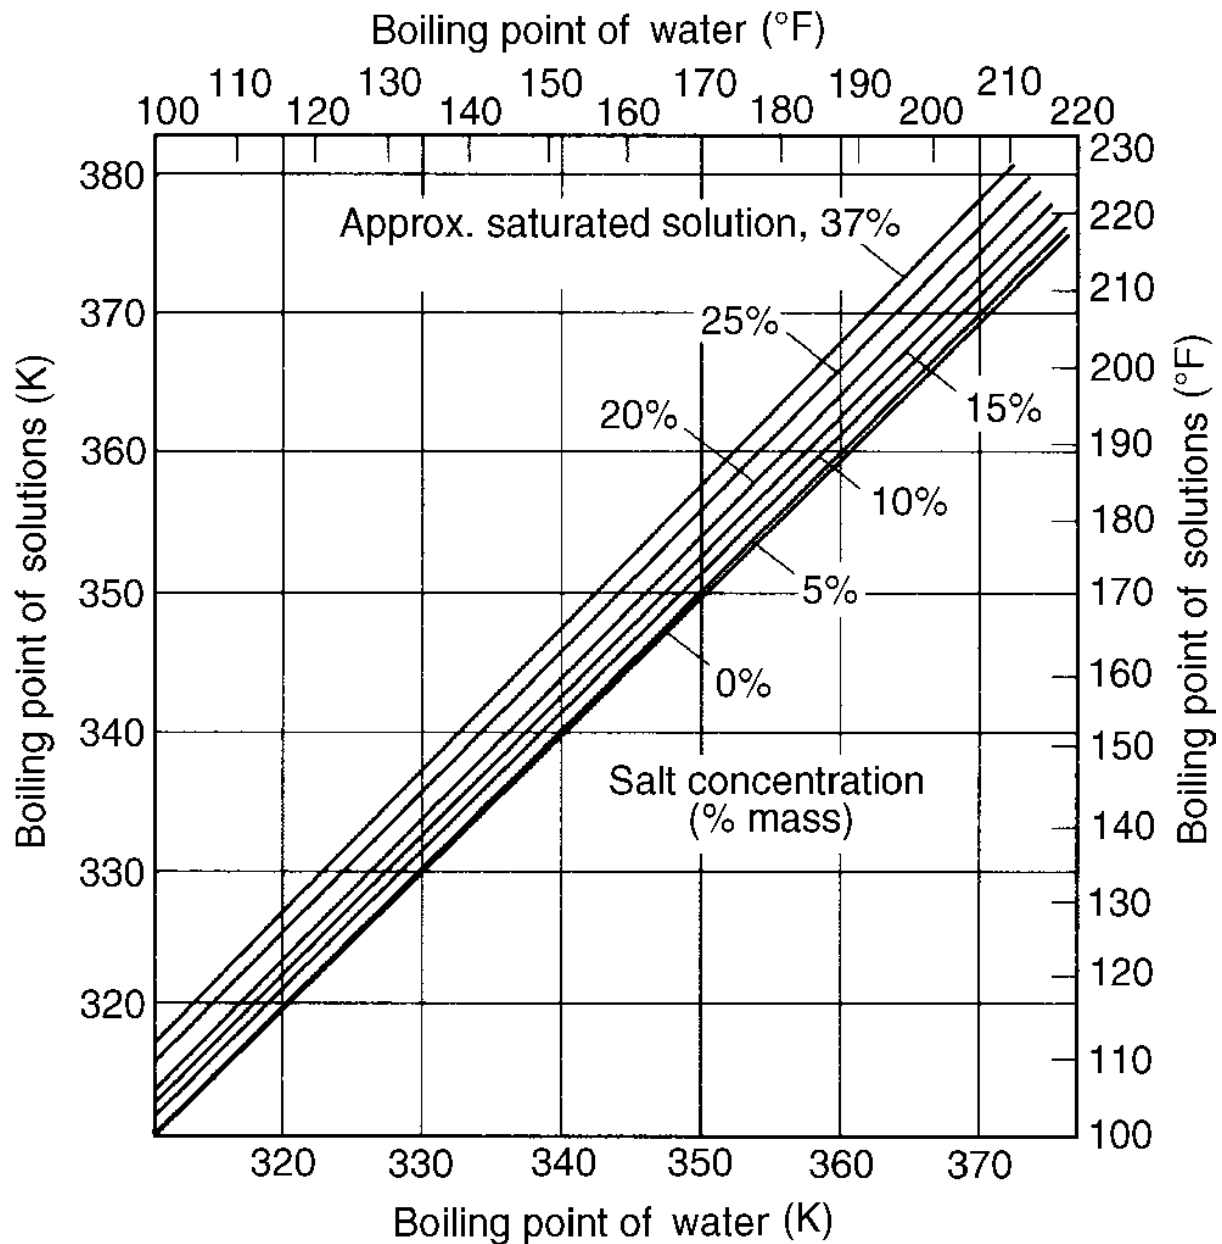

Figure 1: Dühring chart for NaCl solutions, taken from Fig. 14.1, pg. 772 C&R Vol. 2. This figure is needed for Q. 1b).
- b) For maximum efficiency, the evaporator is operated at an absolute pressure of 0.48 bar. Calculate the operating temperature of the evaporator, stating any assumptions you make, and estimate the boiling point rise of the solution. You may need the Dühring data provided in Fig. 1. [5 marks]